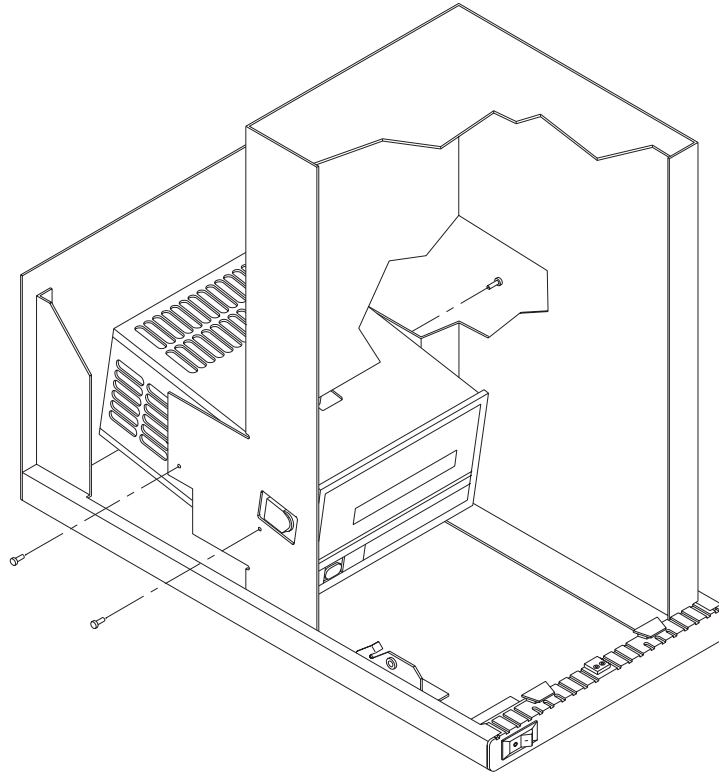

Figure 5-5 Location of CTS mounting screws
- Using a T-15 TORX driver bit, remove the three #6-32 screws from the mounting holes in the EXB-10i, as shown in Figure 5-5.